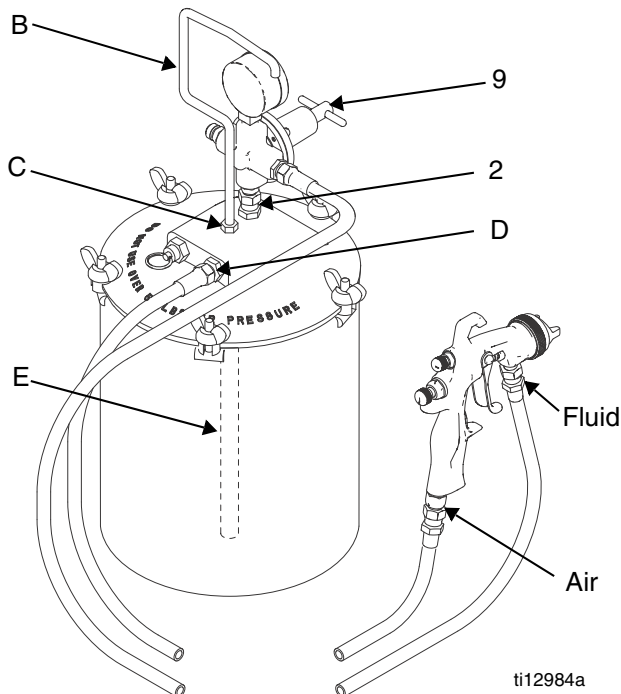

FIG. 2: Typical installation
2. Screw the handle (B) and the nut (C) onto the cover, and tighten them securely.
3. Screw the riser tube (E) into the pipe fitting on the bottom side of the tank cover. See FIG. 2.
4. Screw the swivel union (2) into the port marked AIR on the tank cover.
5. Assemble the air regulator (9). See page 8 for Model 24A555, single-regulated tank. See page 9 for Model 24A557, dual-regulated tank.
6. Screw the assembled regulator into the swivel union (2).
8. Connect the gun's fluid hose to the adapter (D) at the point marked PAINT. See FIG. 2.
9. Connect the air atomizing and fluid hoses to the gun. See FIG. 2.